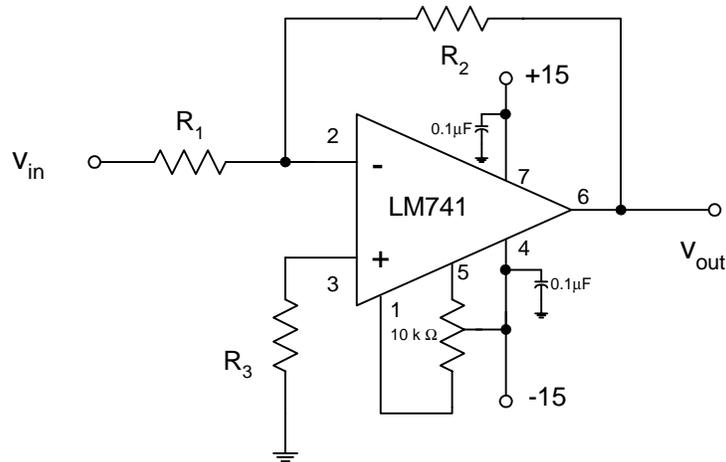

Figure 1: Circuit for experiment 1.
In this experiment, you will be connecting a LM741 in the inverting configuration of Figure 1. You will learn to adjust the offset of the amplifier, measure its bandwidth and see how its performance is limited by its slew rate.
1. Construct the circuit of Figure 1. [Refer to the LM741 data sheet to make sure that you connect to the proper pins of your LM741]. Choose resistor values $R_1 = R_2 = 15 \text{ k}\Omega$ and $R_3 = 7.5 \text{ k}\Omega$ and do not install the $10 \text{ k}\Omega$ potentiometer at this point. Ground the input v_{in} and measure the output voltage [it will probably differ by some number of millivolts from zero]. This voltage is caused by the **input offset voltage** that can be modeled as a dc voltage source in series with the **non-inverting input** to the amplifier and the gain of the amplifier [in this case the gain is two for a voltage applied to the non-inverting input]. Calculate the corresponding input offset voltage and compare this value with that found on the LM741 data sheet.
In this experiment, you will compare the performance of the LF356 operational amplifier to that of the LM741. Note that the LF356 has basically the same pin connections as the LM741. However, the spec sheet shows a 25 k Ω offset-null potentiometer with its wiper connected to the positive supply voltage. Connect an LF356 in the configuration of Figure 1. Do not install an offset-null potentiometer [it is not necessary for the purposes of this experiment].